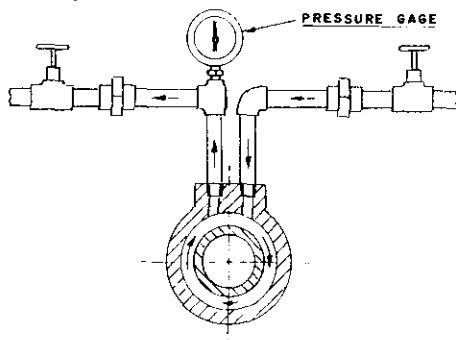

Fig. 6-1
- b. If "IN" and "OUT" water seal is employed (see Fig. 6-1):
1. Open valve on "OUT" side about two (2) turns.